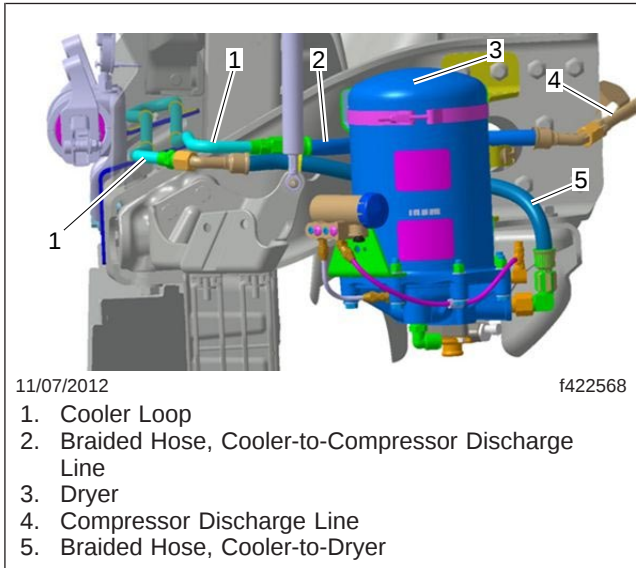
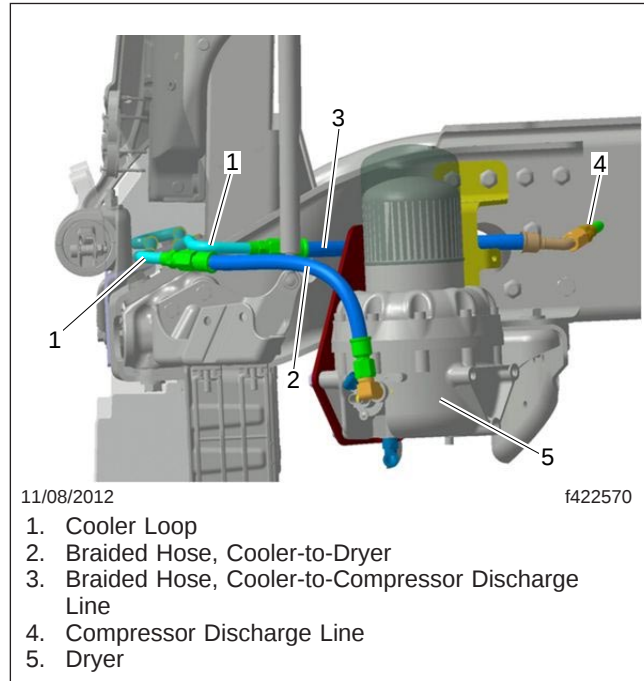

Fig. 2, Braided Line Installation, AD-9/AD-IP Dryers
Fig. 3, Braided Line Installation, WABCO 1200 Plus Dryer
12. Install the new braided line from the loop to the frame rail connection. See Fig. 2 for AD-9/AD-IP Dryers, or Fig. 3 for WABCO 1200 Plus Dryer.
13. Install the new braided line from the loop to the dryer. See Fig. 2.